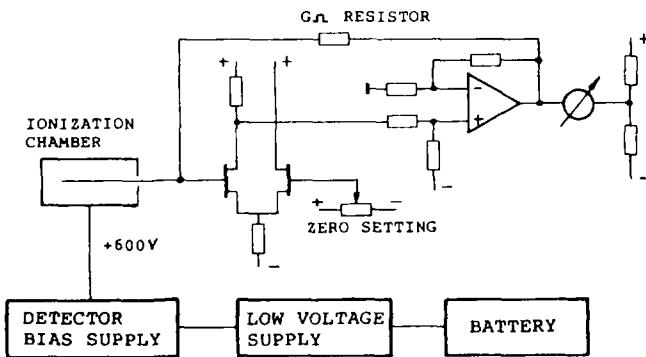

Fig. 11.4: Diagram of a survey meter with ionization chamber
11.1.3.1 Dose-rate meter with ionization chamber detector (Fig. 11.4)